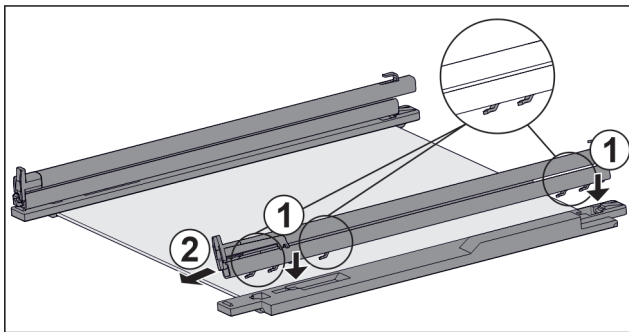

Fig. 53 Glass shelf with rails and retaining parts
- ▶ Place rail hooks onto the openings of the **left** retaining part. Fig. 53 (1)
- ▶ Push rail forwards. Fig. 53 (2)
- ▶ Place rail hooks onto the openings of the **right** retaining part. Fig. 53 (1)